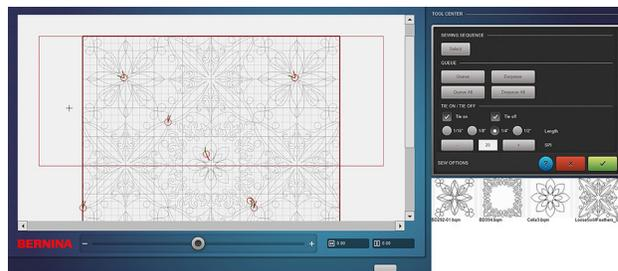

Fig. 82
- o  Select Sew Options, then Dequeue All. All designs will become grayed out (Fig. 82).